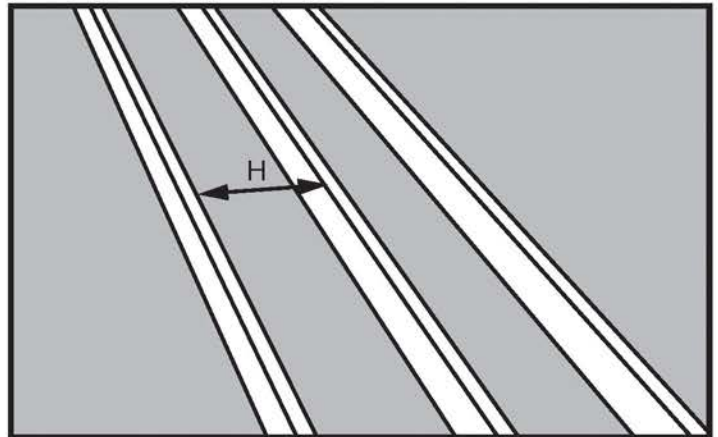

Figure 11
- STEP 1. Measure the header length "H" between the joists (See Figure 11).